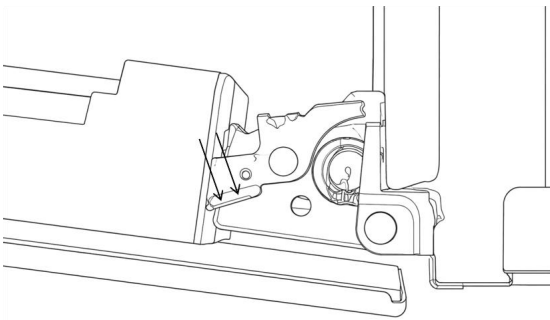
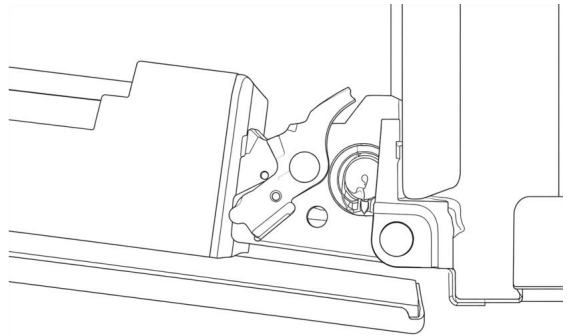

Figure 2
Figure 3
2. Push down and turn the small levers situated on the two hinges (Fig. 2), be sure the lockers must be on position shown on Fig. 3